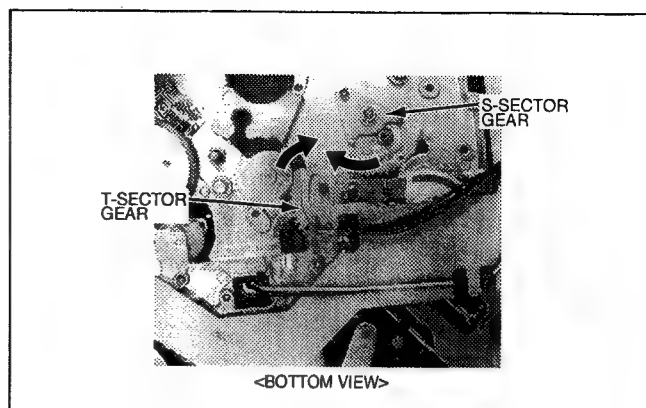

Fig. M-29
- Fig. M-29 Turn the S and T Sector Gears to clockwise and remove these Gears.